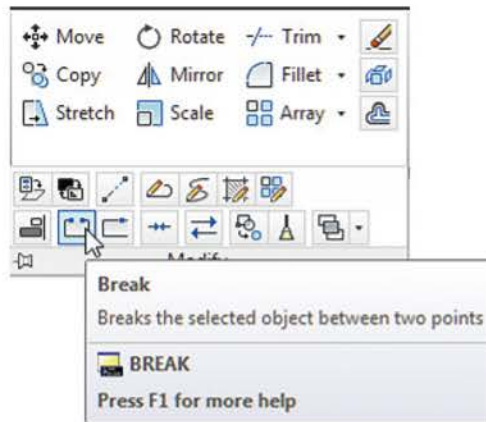

Fig. 6.31 The Break tool icon from the Home/Modify panel
2. Call **Break** – either *click* its tool icon in the **Home/Modify** panel (Fig. 6.31), *click Break* in the **Modify** drop-down menu, or *enter br* or *break* at the keyboard. The command sequence then shows: